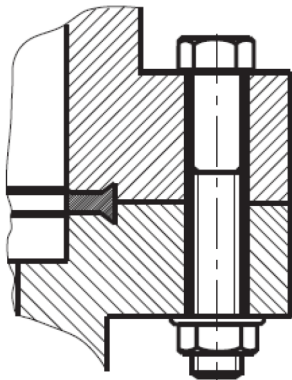

Figure 6.9 ISO CF Flange Connection
- As shown in Figure 6.9, use the corresponding number of hexagon bolts and nuts to connect the flanges;